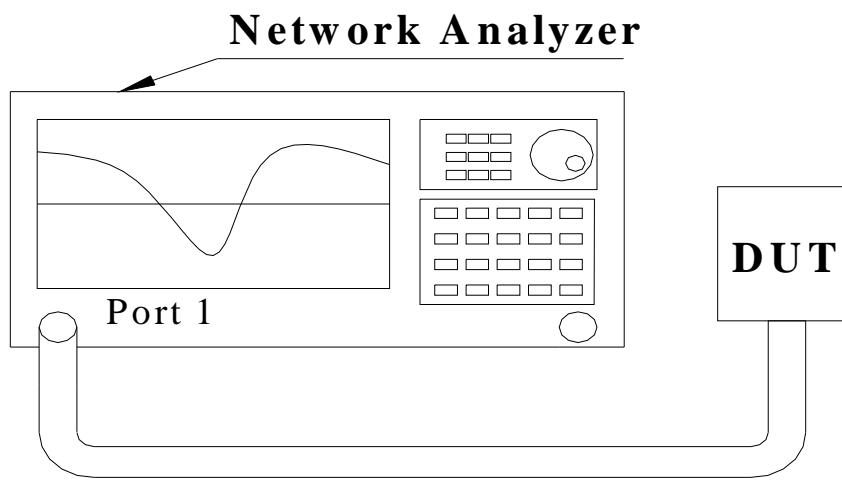

Fig. 1 Measure S11 on Network
(1) Reflection Coefficient Measurement :
- III. Measure the S11 (reflection coefficient) shown in Fig. 1.